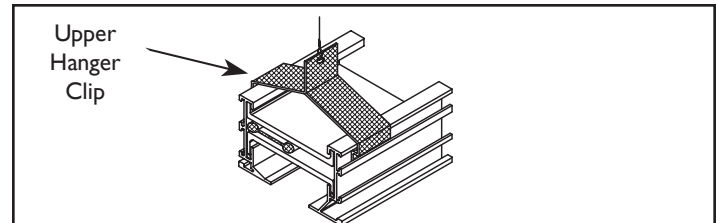

Figure 20. Attachment of UHC to One-Slot Diffuser
- ❑ FlowBar Diffusers with one-slot are supported by sliding Upper Hanger Clips through the top bosses in the FlowBar rails as shown in Figure 20.